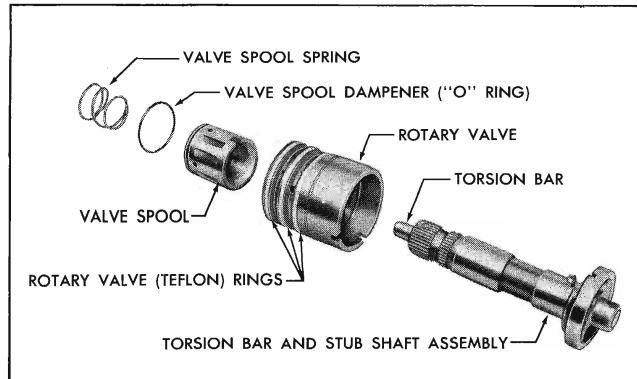

Fig. 9A-24 Rotary Valve—Exploded View
4. Assemble stub shaft assembly in valve body aligning the groove in the valve cap with pin in valve body (Fig. 9A-24). Press on cap until cap is against the shoulder in valve body with valve body pin in the cap groove. Hold these parts together during the rest of the assembly.